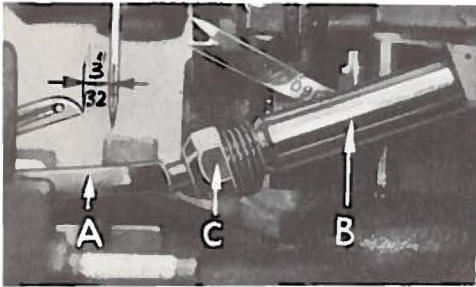

Fig. 4
At this point, insert lower looper (A, Fig. 4) into bar (B). With lower looper at left end of its stroke, set looper point $\frac{3}{32}$ inch from center of needle (Fig. 4), using looper gauge No. 21225-3/32. Do not have lower looper deflecting needle. Tighten nut (C).